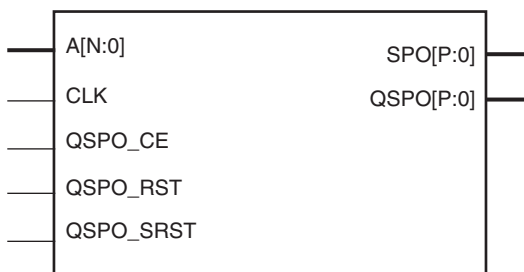
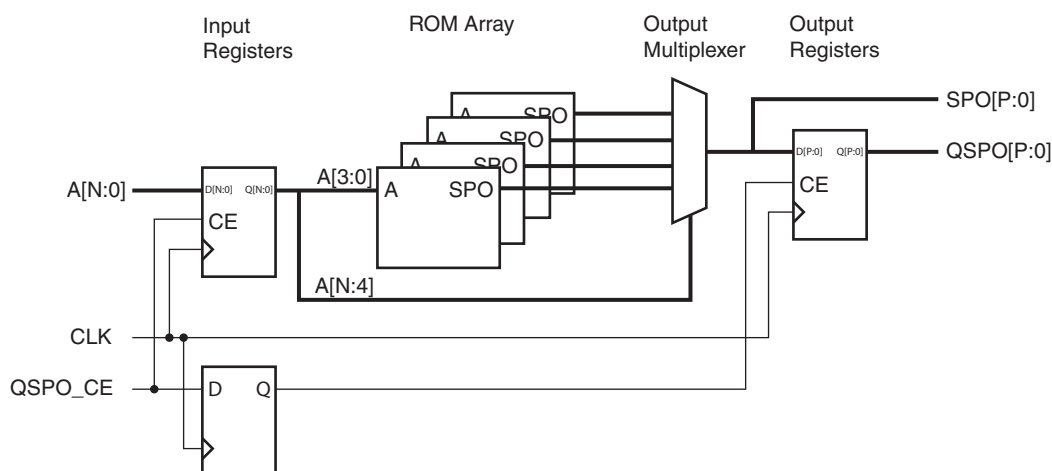

Figure 1: Distributed ROM Schematic Symbol
Figure 2: Distributed ROM Module Schematic
To create the distributed ROM, the core parses the initialization data provided by the user-supplied COE file. From that data, any necessary logic or optional registering is inferred and created. Figure 1 shows the distributed ROM schematic symbol, and Figure 2 illustrates one of the possible implementa-
- **ROM.** Figure 2 illustrates a schematic of the structure of the ROM modules. The address register is optional (controlled by the setting of the Input Options parameter). Output registering is also optional (controlled by the setting of the Output Options parameter). Note that the clock is not required when these registers are not present. The resets and clock enables are optional.